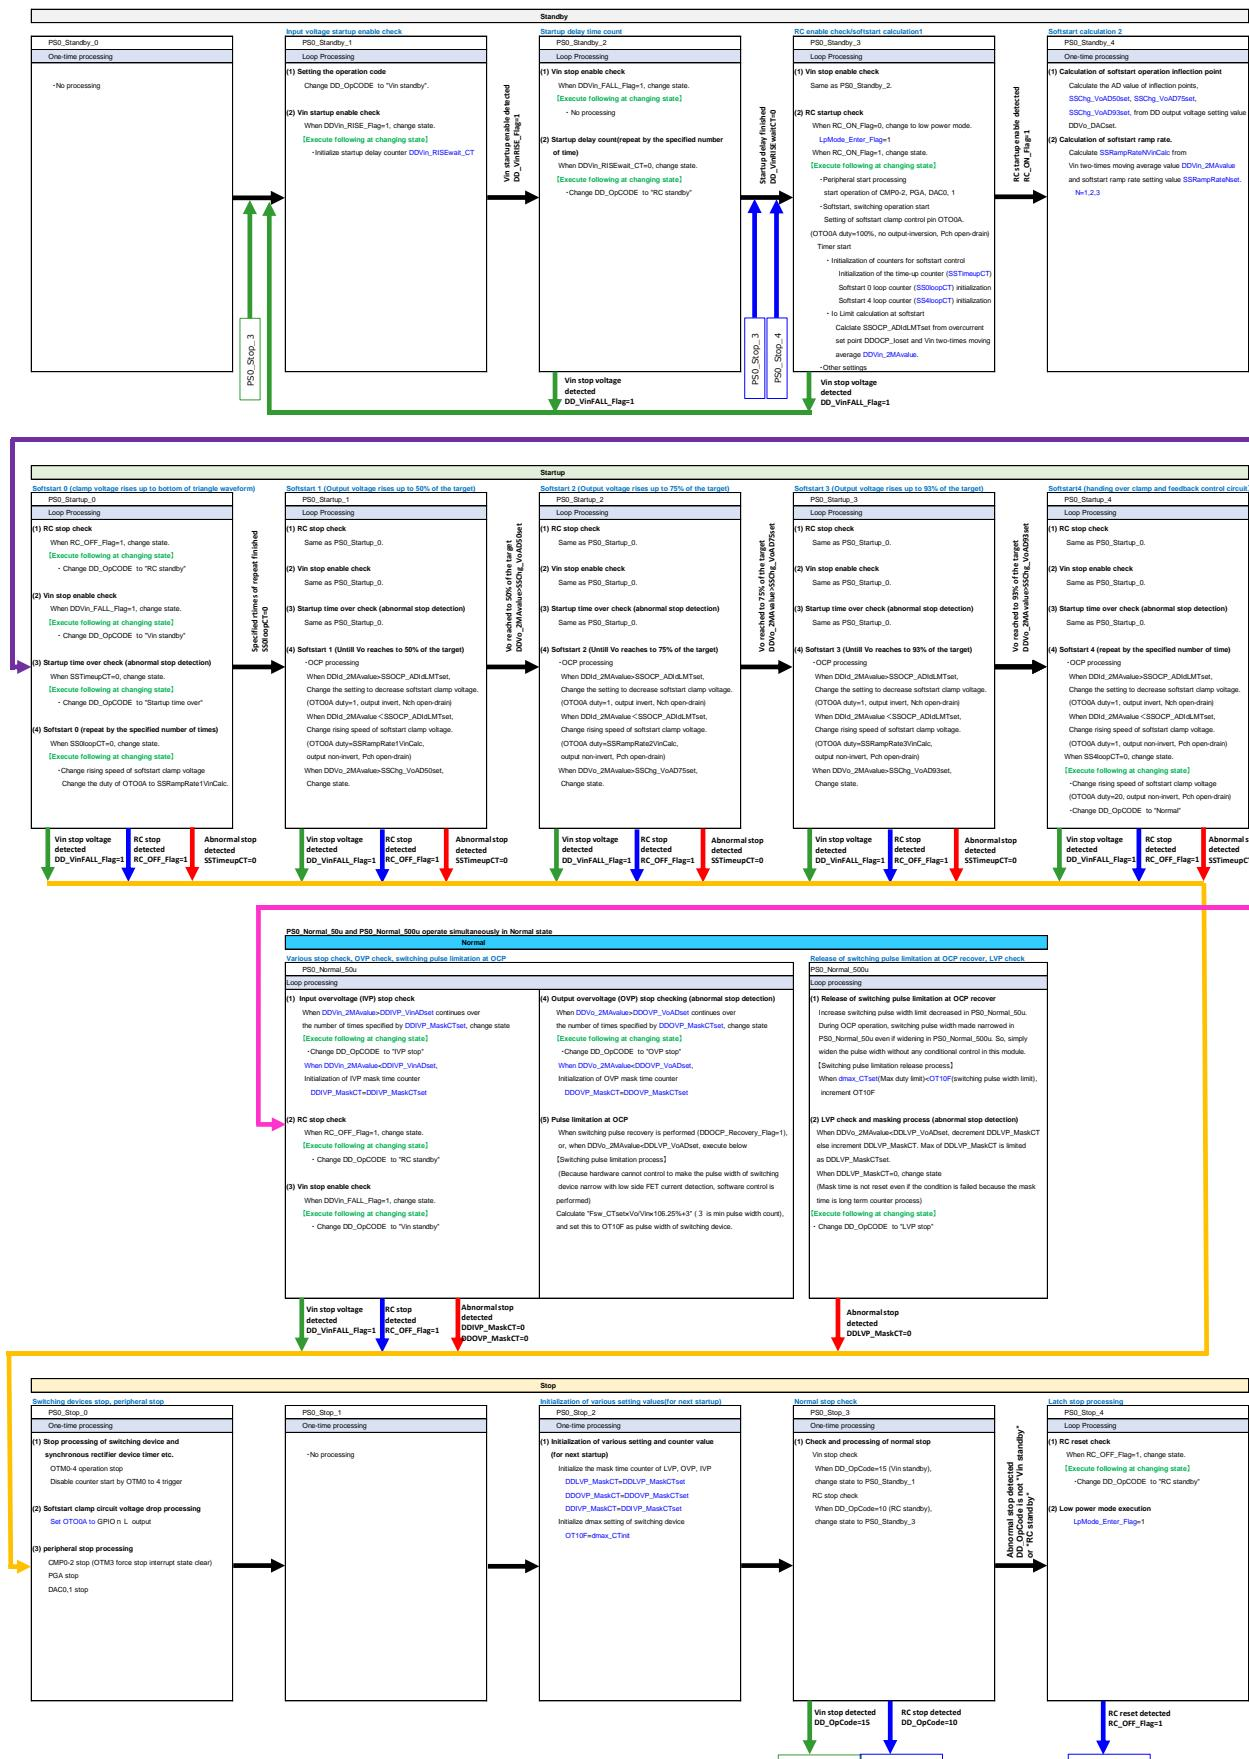

Figure 6-2. LogiCoA001-EVK-001 state transition diagram
Figure 6-2 shows the state transition diagram of LogiCoA001-EVK-001. As described in the section 6.1 "state transition control", the operation state is divided into ① standby, ② start, ③ normal, and ④ stop. The top stage of Figure 6-2 is the ① standby, the second stage from the top is the ② start, the third stage is the ③ steady, and the bottom stage is the ④ stop. As shown in table 6-1, the standby, startup, and stop states have five state transition control modules, and the normal state has two modules, and one of the modules is executed in a cycle of 50μs. However, only for normal state operation, a module that is executed in a 50μs cycle and a module that is executed in a 500μs cycle operate in parallel. Each module judges and controls the transition to the next state or stagnation in the same state according to state variables and state flags such as input voltage, output voltage, and internal counter of the program dynamically acquired as described in the figure. State variables and state flags are listed in Section 6.3 "State Variables and State Flags".